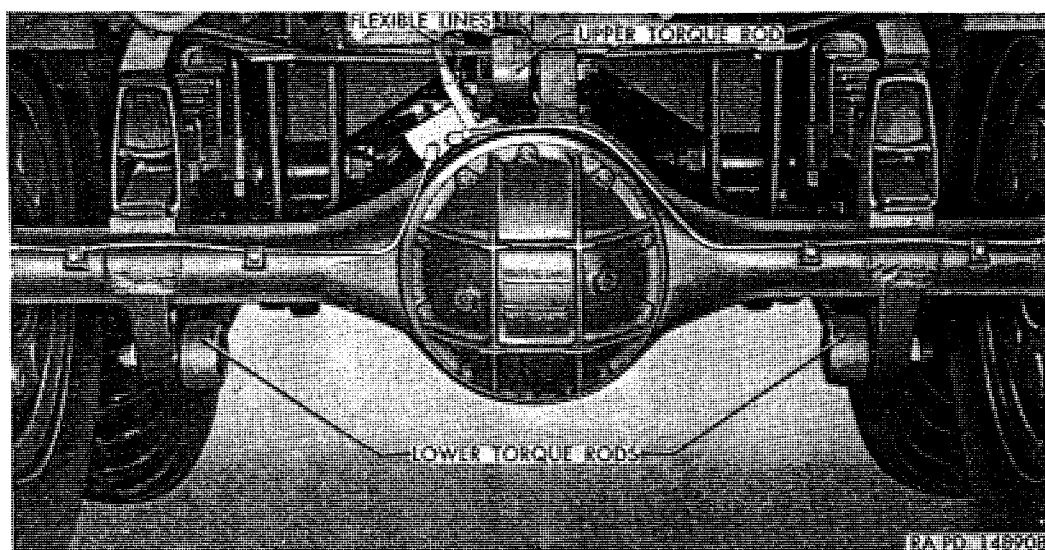

Figure 237. Rear rear axle assembly installed.
c. *Removal* (fig. 237).
- (1) *Position vehicle.* Place vehicle on a level surface and block front wheels to prevent vehicle rolling. Place a jack under axle and raise vehicle until tires are off the ground.
- (2) *Remove wheels.* Remove wheels and tires from each side (par. 259b).
- (3) *Block vehicle.* Place blocks under torque rod support bracket at spring seat at each side to support vehicle after axle is removed.
- (8) *Remove axle.* Lower axle with jack and pull assembly rearward as necessary to disengage main spring ends from axle brackets; then completely remove axle assembly.
d. Installation (fig. 237).
- (1) *Position axle.* Move axle into position under vehicle and engage main spring ends with openings in bracket at each end of axle housing.
- (2) *Connect torque rods.* Attach three torque rods to axle brackets by installing torque rod end pins in axle brackets. Install washer and 1-14 safety nut on each pin. Tighten nuts to 350 to 400 pound-feet torque.
- (3) *Connect flexible hose.* Connect hydraulic brake and axle vent flexible hose at junction on top of axle housing with two connector bolts and four new copper washers. Use one washer on each side of connector. Tighten connector bolts to 20 to 30 pound-feet torque.
- (4) *Connect propeller shaft.* Position propeller shaft joint flange to differential pinion flange, with lubrication fittings in same plane as other shafts; then install four bolts and $\frac{7}{16}$ -20 safety nuts. Tighten nuts to 33 to 43 pound-feet torque.
- (5) *Install wheels.* Install wheels on hub (par. 259c).
- (6) *Remove blocks and jack.* Raise vehicle with jack as necessary to remove block from under each torque rod bracket; then lower jack and withdraw from under vehicle.
- (7) *Bleed brakes.* Perform brake bleeding operation (par. 237).
- (8) *Lubricate.* Check lubricant level in axle differential (par. 224b). Lubricate propeller shaft universal joints as directed on lubrication chart (par. 69).
- (9) *Check for lubricant leaks.* Check for lubricant leaks around housing cover. Tighten cover stud nuts to 45 to 55 pound-feet torque.